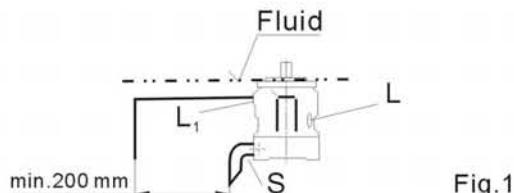

Fig.1
- If the minimum fluid level is equal to or above the pump mounting face close port "L1" plugged, leave ports "L" and "S" open; L1 piped and recommendation S piped (see Fig.1).